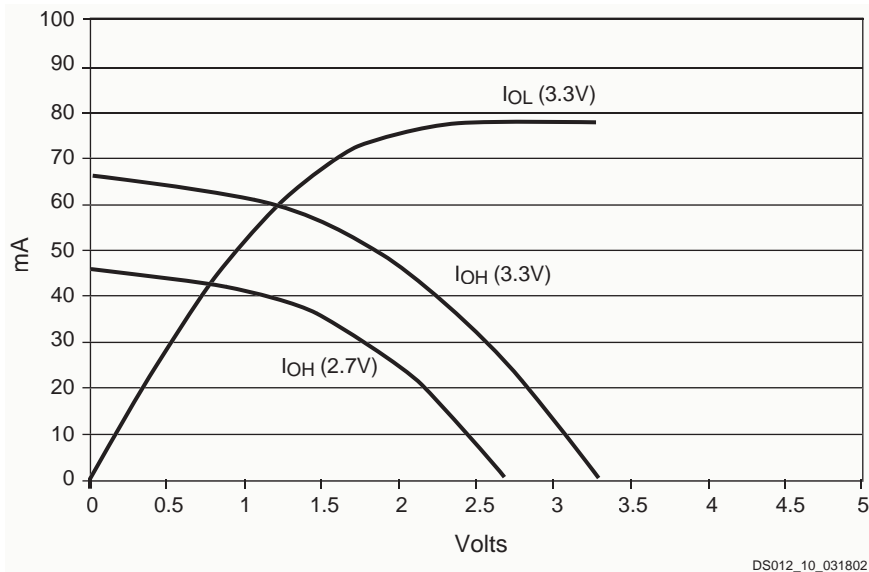

Figure 2: Typical I/V Curve for the XPLA3 Family, 25°C
1. See Figure 2 for output drive characteristics of the XPLA3 family.